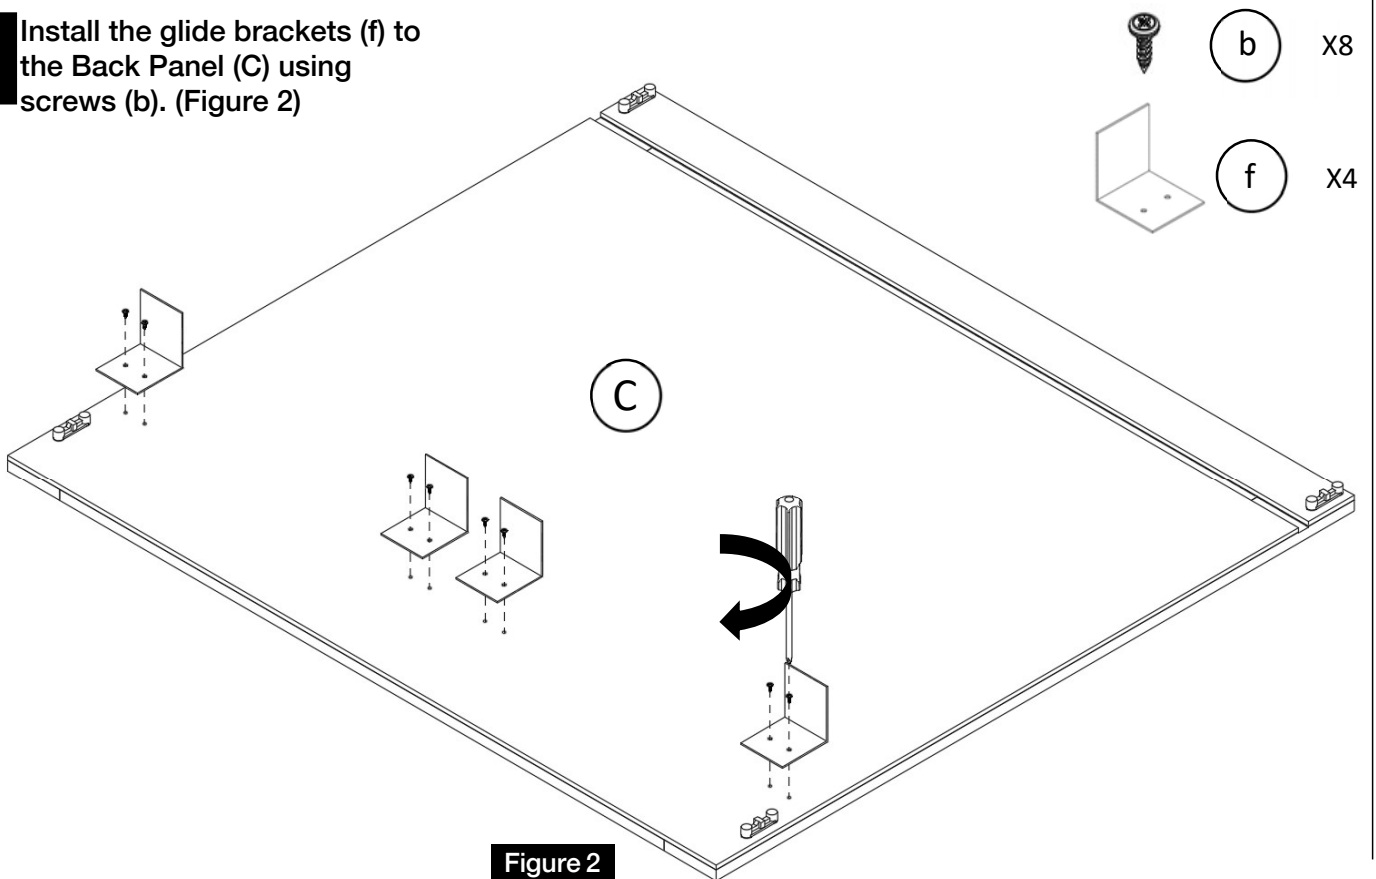

Figure 2
Install the glide brackets (f) to the Back Panel (C) using screws (b). (Figure 2)